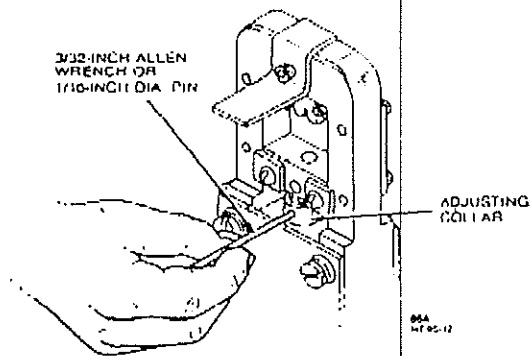

Figure 10
2. Insert the turned-down end of the 3/32-inch Allen wrench or a pin, approximately 1/16-inch in diameter, into one of the holes in the adjusting collar (see figure 10). Then rotate the collar about 1/2-turn counterclockwise.